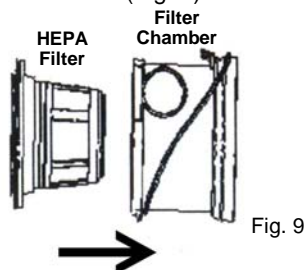

Fig. 9
4. Remove the HEPA filter from the filter chamber. (Fig. 9)